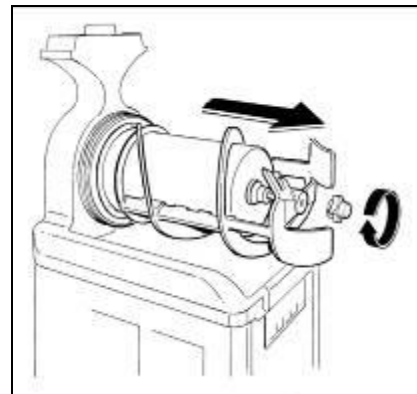

Fig. 9
- **U**nscrew the security knob in the direction of the arrow (threading on left), then pull out the mixing unit, the bell shaped seal and the bowl gasket on the back (fig.9).